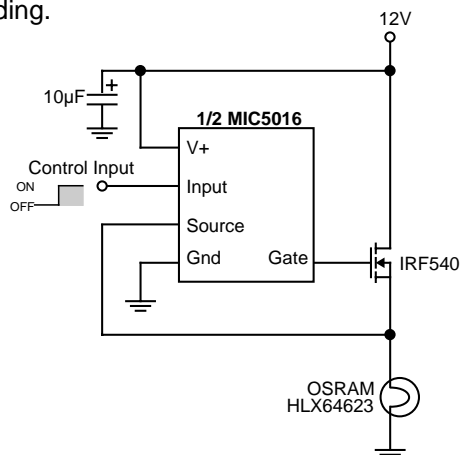

Figure 8: Halogen Lamp Driver
**Incandescent/Halogen Lamp Driver** (Figure 8) The combination of an MIC5016/5017 and a power FET makes an effective driver for a standard incandescent or halogen lamp load. Such loads often have high inrush currents, as the resistance of a cold filament is less than one-tenth as much as when it is hot. Power MOSFETs are well suited to this application as they have wider safe operating areas than do power bipolar transistors. It is important to check the SOA curve on the data sheet of the power FET to be used against the estimated or measured inrush current of the lamp in question prior to prototyping to prevent “explosive” results.